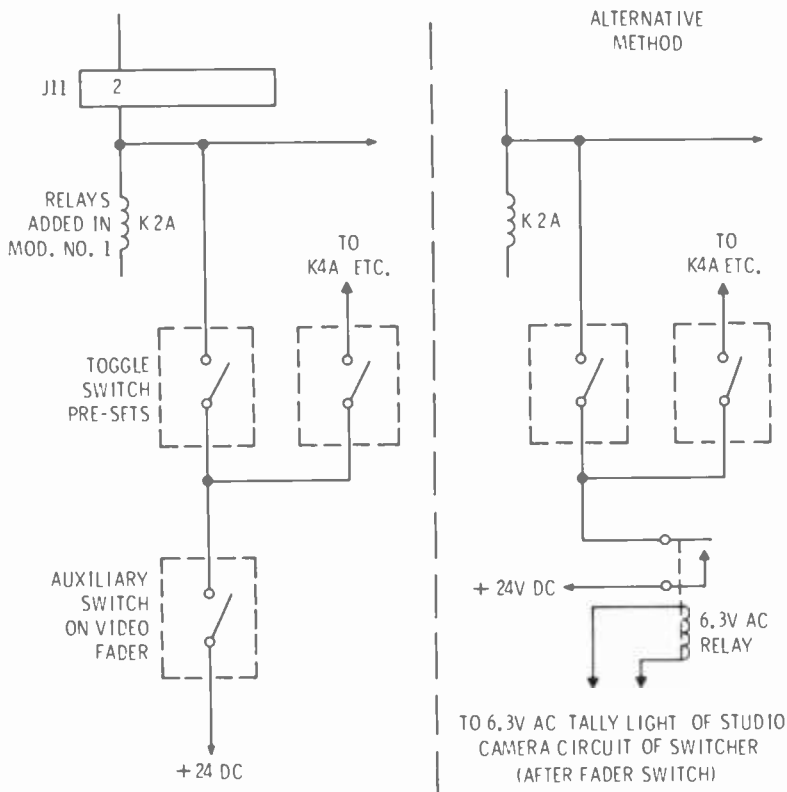

Fig. B-2. TC-4A modifications to add presets. The alternate method indicates changes possible when tally light voltage is present on the video fader contacts.
2. Adding Microphone Presets (Fig. B-2)